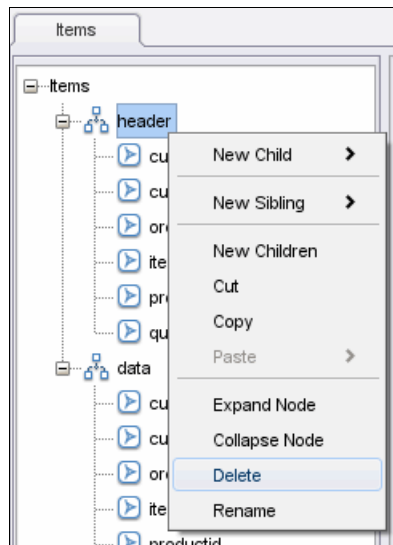

Figure 12-30 Deleting the header node from the Items flat file schema
9. After the entity tab Items is opened, delete the header node because it is not going to be used. Right-click the header, and select **Delete**, as shown in Figure 12-30.